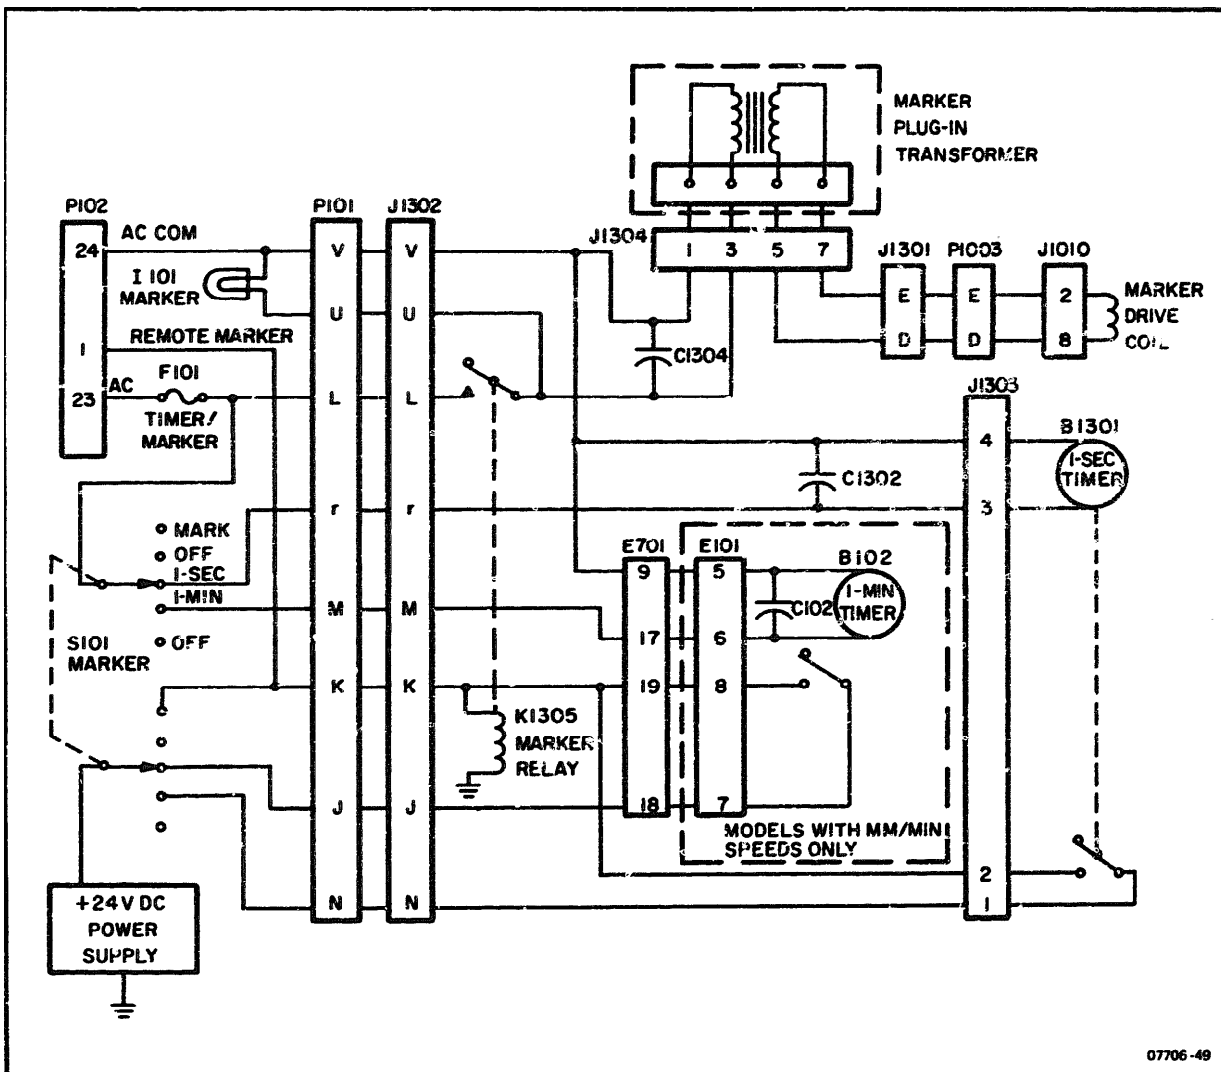

Figure 4-23. Standard Timer/Marker Circuits
4-105 For "timer" operation, a motor driven switch closes the marker circuit briefly to record a burst of line frequency signal which serves as the timing mark. Timing intervals are at one-second intervals (MM/SEC chart drive) or at one-minute intervals (MM/MIN chart drive). These marks provide a timing reference for interpretation of the recording, and for identifying the chart speed. Figure 4-23 shows the timer/marker circuits which perform these functions.
4-107 The special timer/marker circuit is associated with the standard timer/marker or an auxiliary marker. Circuits using the standard marker are shown in Figure 4-23. Operation of the standard marker is independent of the auxiliary marker (when used):
a. Standard use of the standard timer/marker uses a transformer plugged into J1304, as shown in Figure 4-23 and 4-25. This provides timing and marking indications at line frequency.